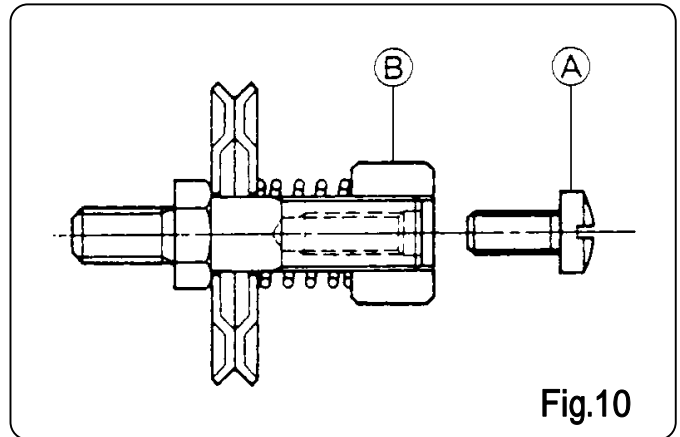

Fig.10
1. Thread Tension (Fig.10)
The thread tension spring is preset at the factory to sew PP woven cloth bags. If some adjustment is needed, first loosen screw A (9/64S40054) and adjust the thread tension nut B (245092) as per Fig.10. When the adjustment is finished, retighten screw to lock the thread tension nut.